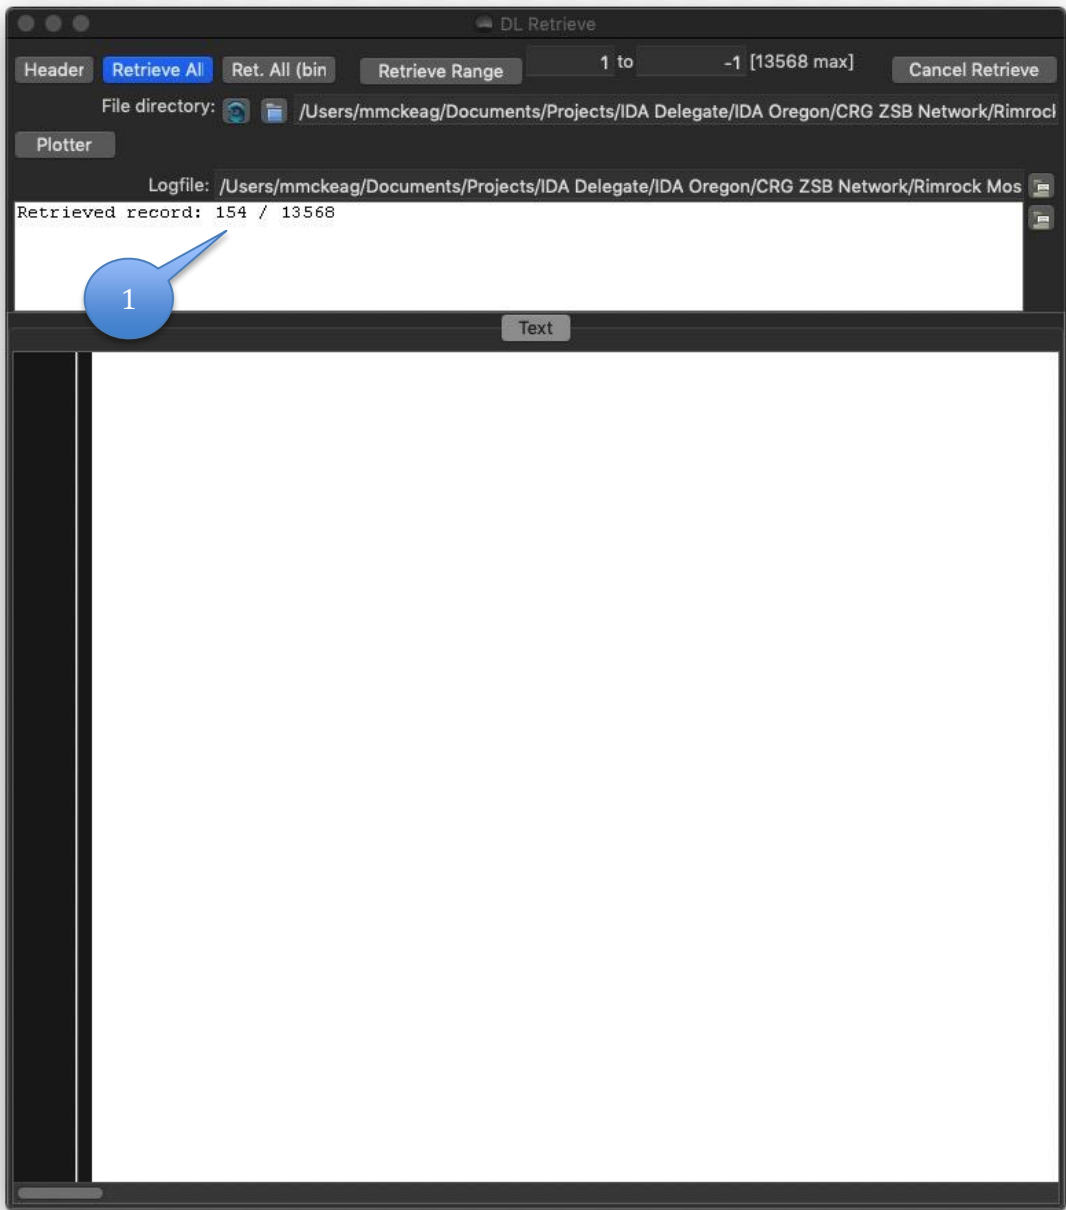

Figure 7: DL Retrieve window during data retrieval displays the current record being retrieved and the total number of records to be retrieved.
- b. Note the path displayed under File directory (1). Verify that the path displayed points to the desired data output folder. If incorrect, click the folder icon (2) to open the file browser and browse to and select the desired folder.
- c. Select, Retrieve Range (5) to retrieve new data collected since the previous data download. First, enter the record number of the last record from the previous download into the start record box (6) (after each download, write the last record number on a post-it note, or piece of tape attached to the body of the SQM). A -1 in the end record box (7) will result in all records stored, from the start record onward being downloaded.
- d. The last record number is displayed just to the right of the last record box (7) such as “13568 max”. Note and save the last record number. It will be the first record for the next data download.
- e. Click the Retrieve Range button (5) to start the download.
- f. Retrieved record count (1) will be displayed during the process (Figure 7).